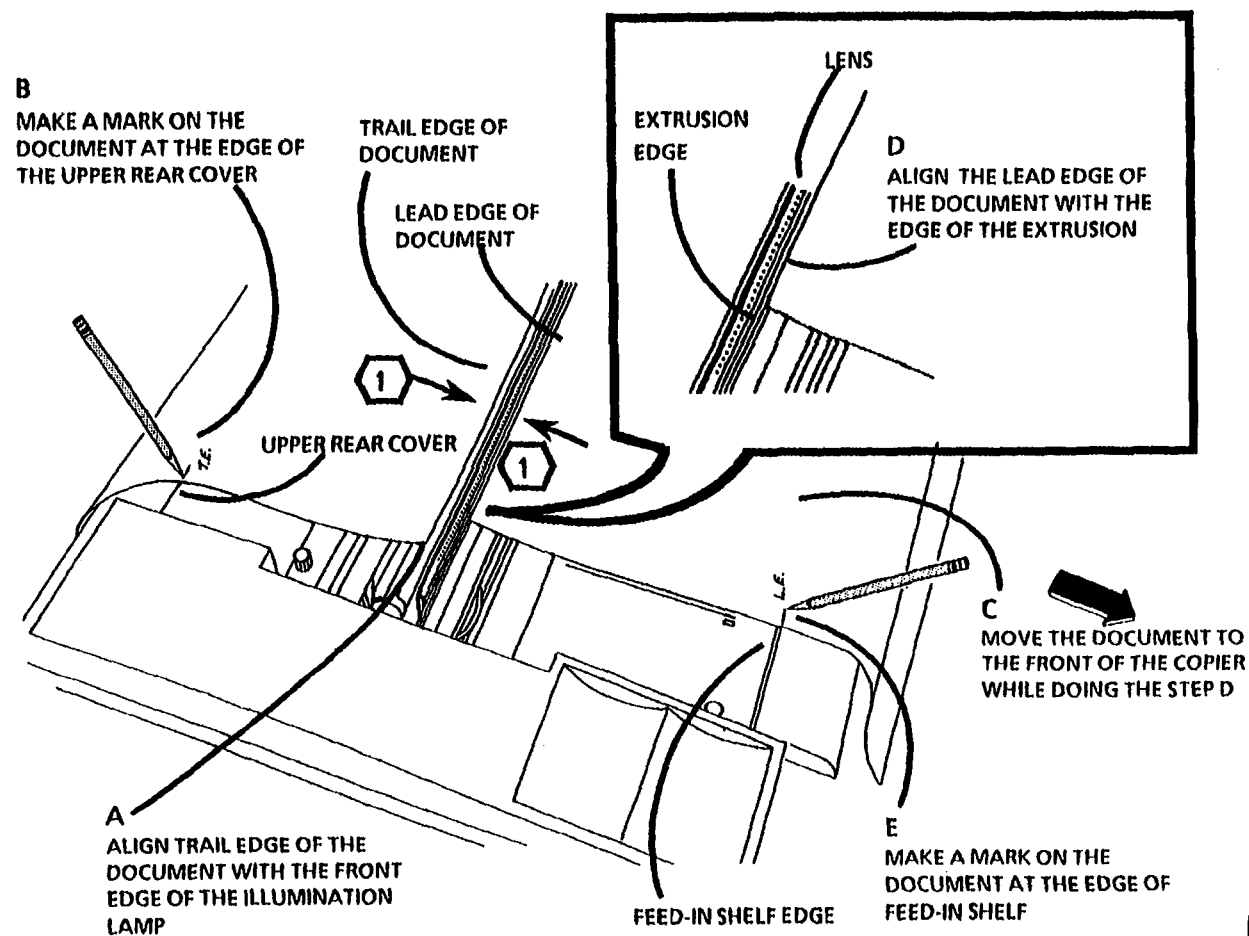

Figure 1. Mark the scan positions
① *The document must be approximately 5/16 inch (8 mm) from the center of the lens.*
2. (Figure 1): Mark the position of the start of scan and the end of scan on the back of the document.